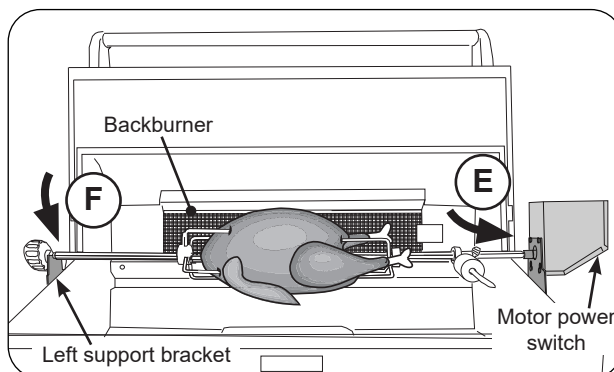

Fig. 41-4 Attach Rotisserie rod to motor
10. Insert the pointed-end of the rod into the motor drive socket (see Fig. 41-4, E). Then rest rod groove (next to the knob) into the left support bracket (see Fig. 41-4, F).